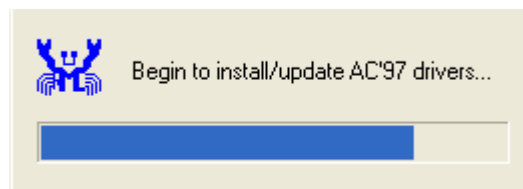

Figure 7-28: AC'97 Driver Installation
Step 7: The driver installation begins. See **Figure 7-28**.